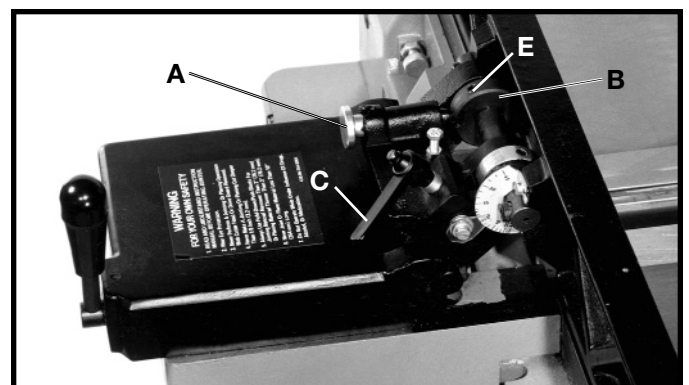

Fig. 33
1. Position the fence 90 degrees to the table by making sure end of plunger (A) Fig. 33, is engaged in notch in index collar (B), as shown, and tighten lockhandle (C).
3. If the fence is not at 90 degrees to the table, loosen set screw (E) in the index collar (B), Fig. 33, and loosen the fence locking handle (C). Move the fence until you are certain it is at 90 degrees to the table and tighten locking handle (C) and set screw (E).